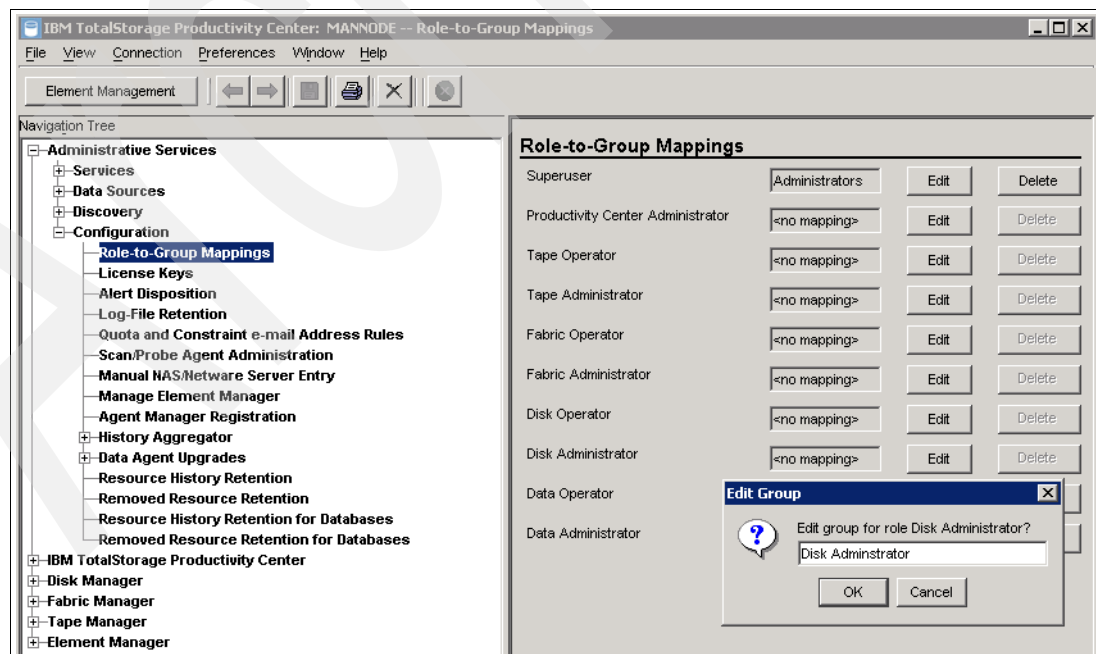

Figure 12-13 Assigning the Windows user group Disk Administrator to the TPC Role Disk Administrator
2. Add the Group you created in Windows to a Role, as shown in Figure 12-13. For DS8700 system management, the recommended roles are Disk Operator, Disk Administrator, and Security Administrator.